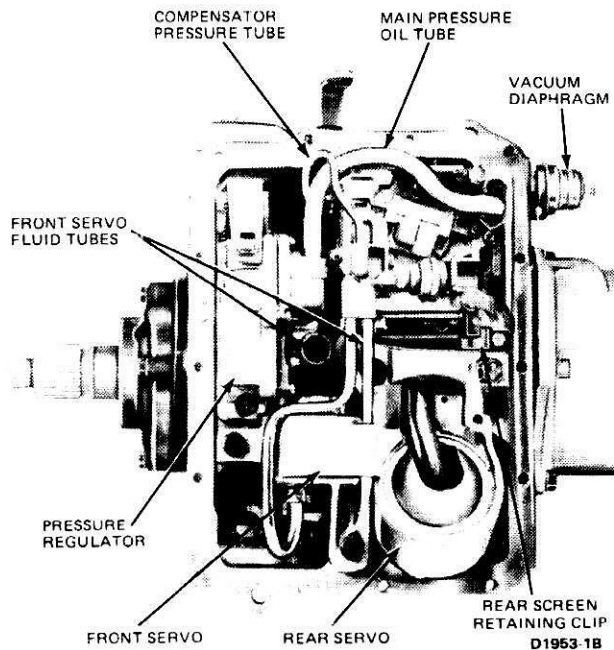

FIG. 9 Typical Hydraulic Control System
4. Remove the attaching bolts from the front servo (Fig. 9), hold the strut with the fingers, and remove the servo.